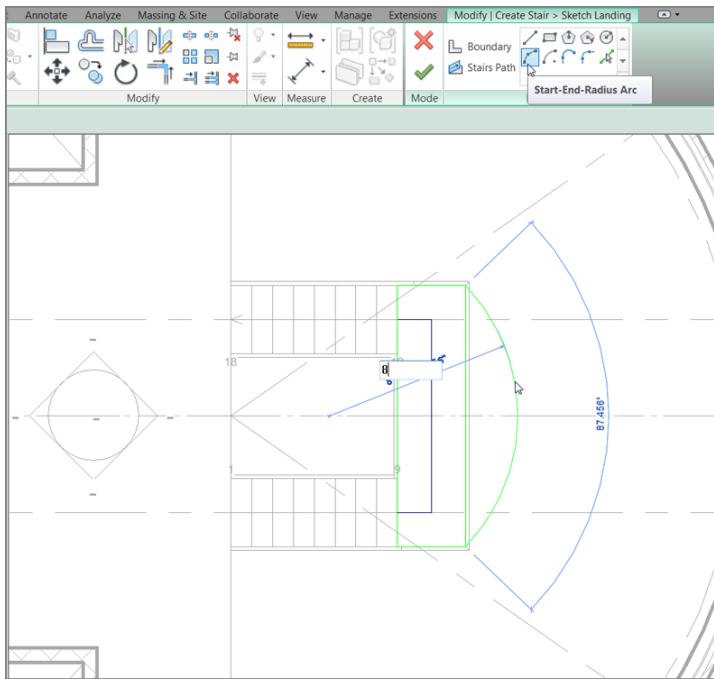

FIGURE 10.7: Add a radius to the outside of the landing.
5. On the Draw panel, click the Start-End-Radius Arc button, as shown in Figure 10.7.
6. Draw an arc on the outside of the landing at an 8'-0" (2400mm) radius (see Figure 10.7).